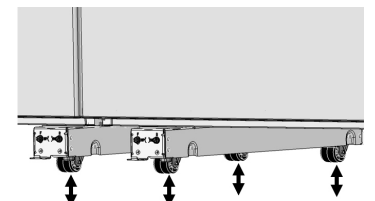

Fig. 8
- Use a flat head screw driver or a $\frac{3}{8}$ " socket wrench to adjust the front bolts of the Leveler Assemblies (Fig. 8). Raise or lower the front and back wheels as needed until the unit rests properly in the cabinet space.